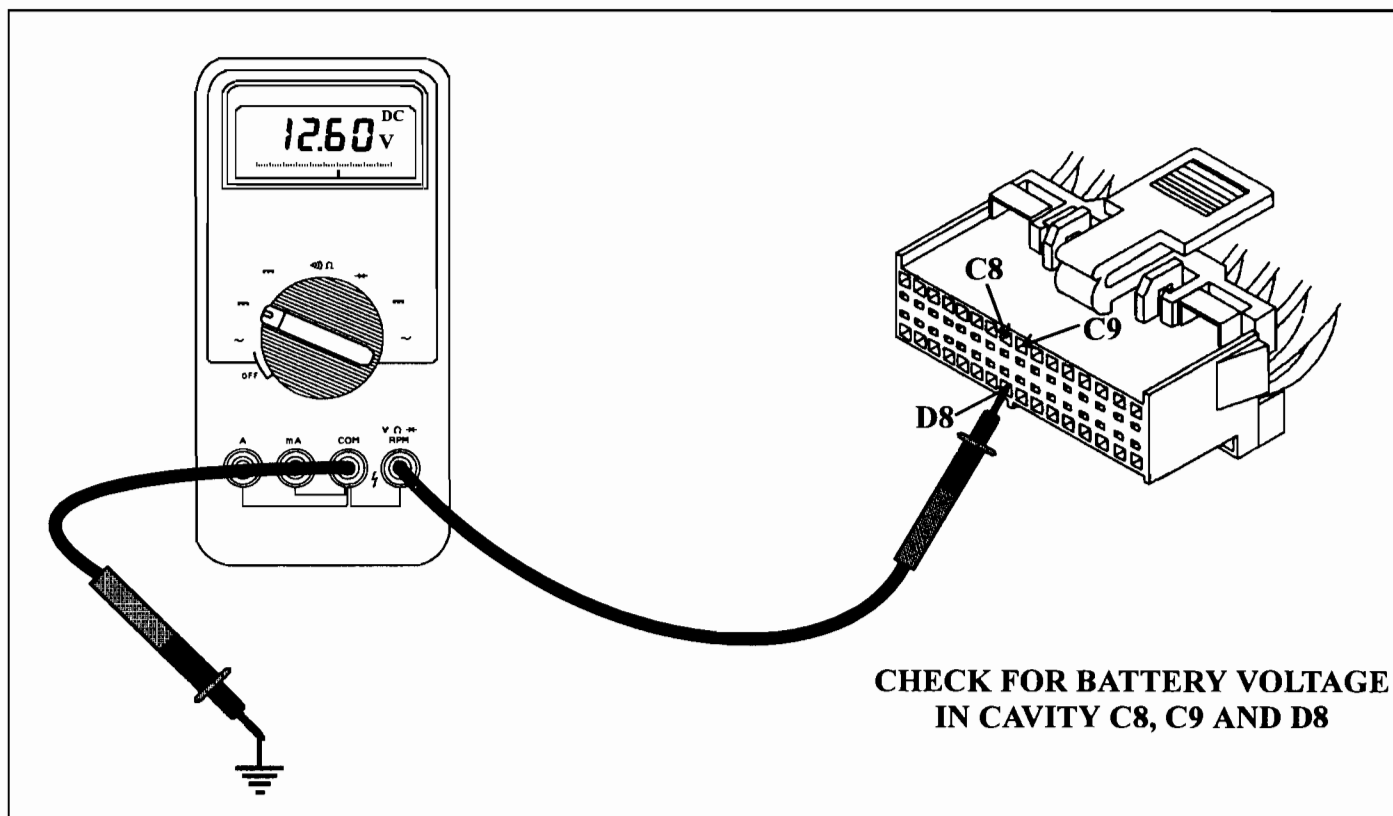
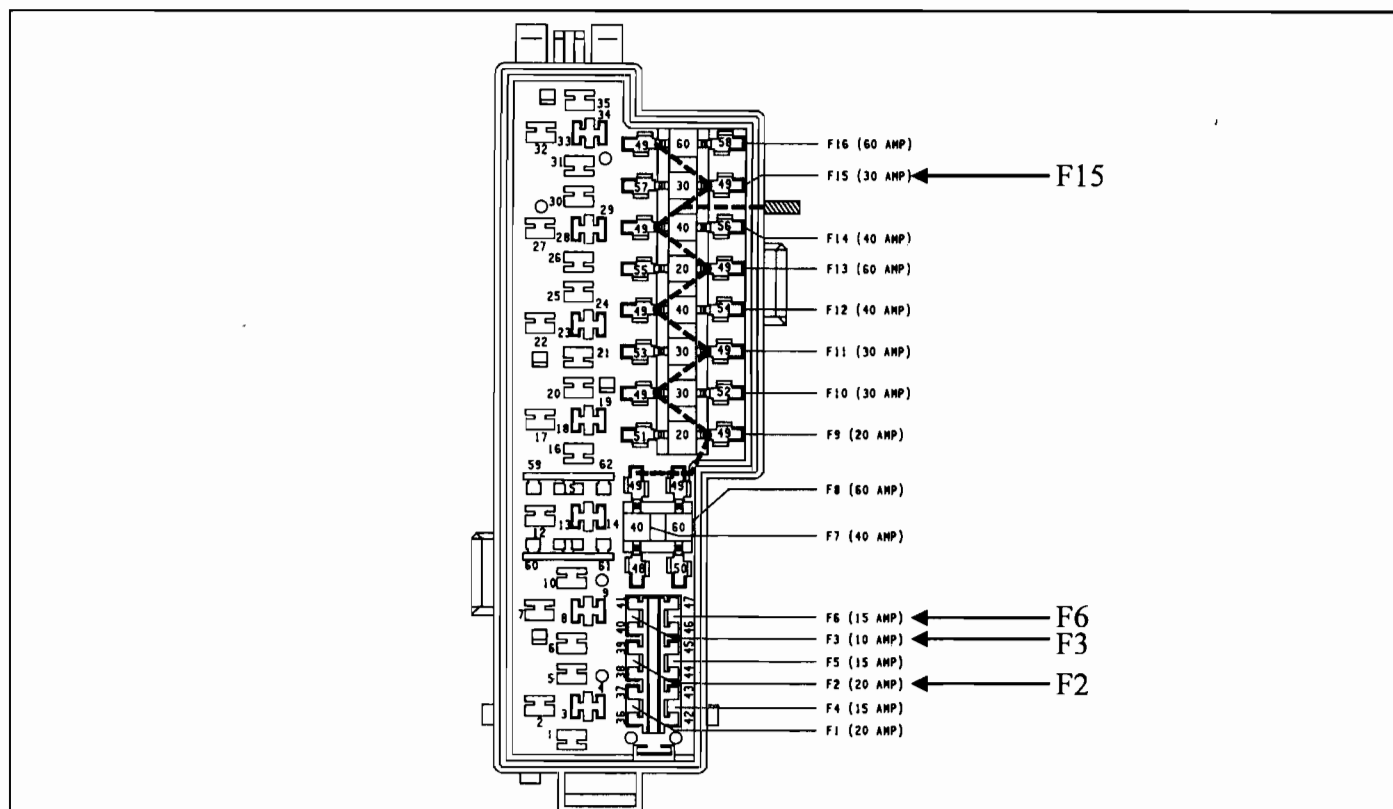

Figure 9
Figure 10
- (c) With the engine off and the ignition switch in the ON position, check for battery voltage in the transmission control module connector, on pins C8, C9 and D8, as shown in Figure 9. If battery voltage is lost at *any* one of these terminals, check for blown fuses in the power distribution center, located on the passenger side fender shield by the battery. Check fuses F2, F3, F6, F15, and replace as necessary, as shown in Figure 10. If battery voltage is seen at all three locations, continue on to the next step.